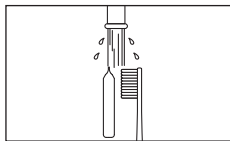

Fig. 14
- 3) After using the wrench, clean the external surfaces of the wrench with a soft bristled toothbrush for each 15 seconds or more. (Only for Z95L) (Fig. 14)